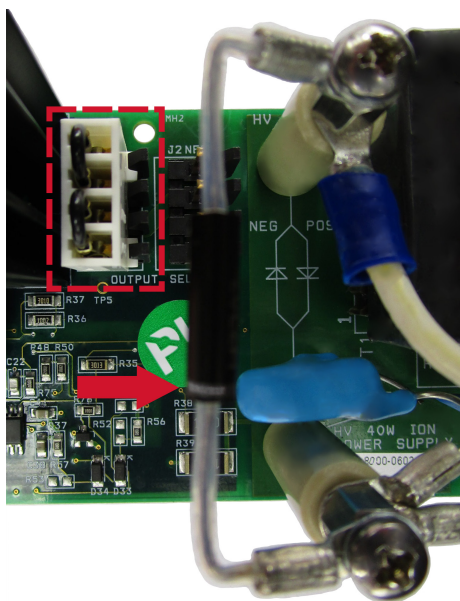

Figure 4. Component position for positive voltage output
7. Locate the HV diode. As shown in **Figure 4**, the HV diode is the electrical component identified by the arrow.